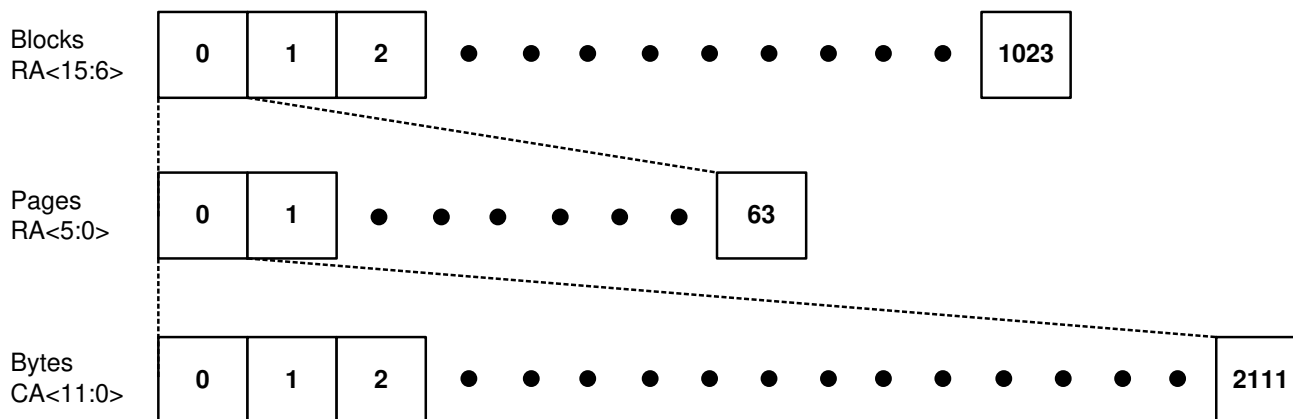

Figure 1-2. Memory Mapping Diagram
1. Please refer the Figure 1-2 .